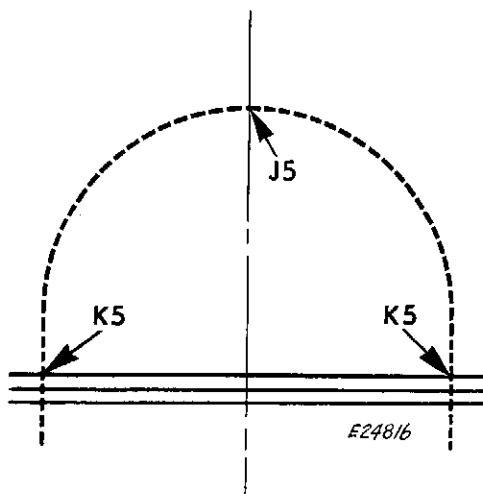

Fig. 82. Correct Path of
2. The needle should reach the peak **J5**, **Fig. 82** of its ascent midway between the two extreme positions **K5**, **Fig. 82** of the needle.
3. When the needle vibrator lever fork **Z4** reaches the opposite end of its swing, the pendulum movement should be completed as shown in **Fig. 82**.
4. The needle should begin and end its **pendulum movement** at about the same height above the throat plate as shown in **Fig. 82**.
13. Check pendulum movement of needle bar as described on page 53 and as shown in **Fig. 82**.